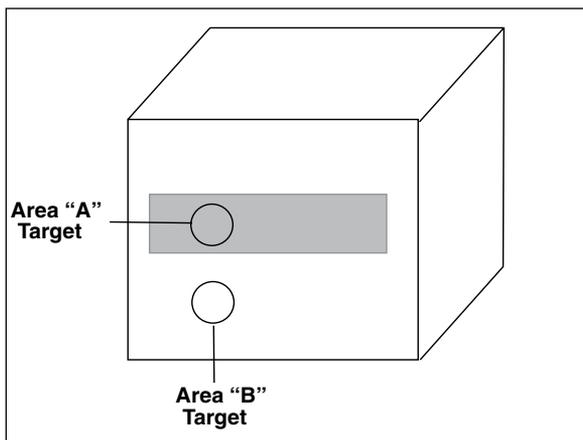

Figure C-1.
3. Set the emissivity of the thermometer to 0.95. Use the thermometer to measure and record the temperature of the masking tape - Area "A" in Figure C-1. Make sure that the area of the object covered with masking tape fills the FOV of the thermometer.
4. Aim the thermometer at Area "B" as shown in Figure C-1. Make sure that Area "B" is as close as possible to Area "A".
2. Set the emissivity to 0.97 and measure and record the temperature of the painted portion of the sample material - Area "A" in Figure C-1. Make sure that the painted area of object material fills the FOV of the thermometer.
3. Aim the thermometer at another spot on the target - Area "B" in Figure C-1.